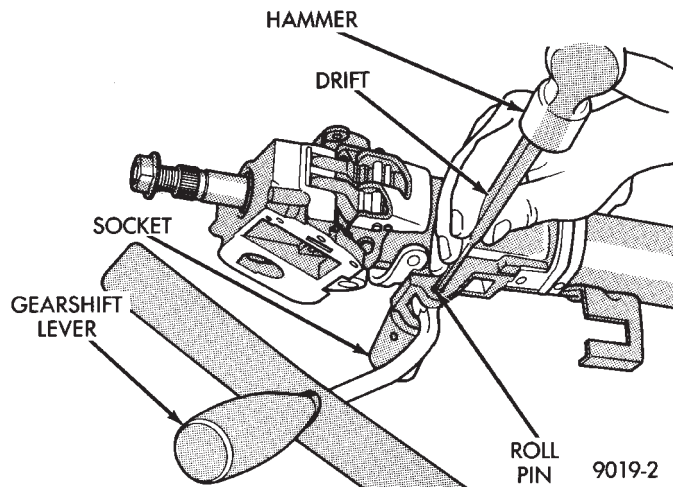

Fig. 1 Gear Shift Lever Removal
The Acustar tilt and standard steering columns (Fig. 1) have been designed to be serviced as an assembly; less wiring, switches, shrouds, steering wheel, etc. Also most steering column components can be serviced without removing the steering column from the vehicle. For additional information on electrical components refer to **Group 8H Electrical**.
(1) Support the steering column assembly as shown in (Fig. 1) using a suitable size socket.
(2) Using a drift of the appropriate size drive the roll pin out of the steering column and gear shift lever (Fig. 1). Remove the gear shift lever from the steering column assembly.
- (1) Support the steering column assembly as shown in (Fig. 1) using a suitable size socket.
- (2) Install the gear shift lever into the steering column assembly. Align the roll pin holes in the gear shift lever and the steering column assembly.
- (3) Carefully install the roll pin into the steering column assembly and through the shift lever. If the roll pin binds check the alignment on the holes. Be sure roll pin is fully installed into the steering column assembly.